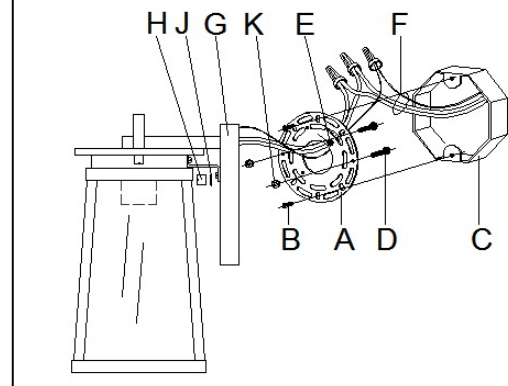

Fig. 2
CONNECTING THE WIRES (Fig. 2)
4. Connect the electrical wires as shown in Fig.2. Make sure that all wire connectors are secured. If your outlet box (C) has a ground wire (green or bare copper), connect fixture's ground wire to it. Otherwise, connect fixture's ground wire directly to mounting plate (A) using green screw (E) provided.
5. Tuck the wire connectors neatly into outlet box (C).